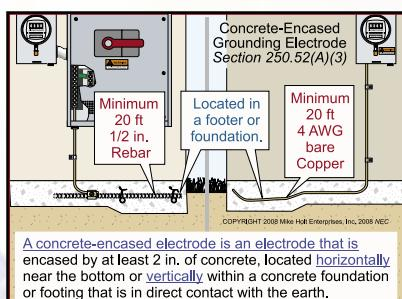

Figure 250-26
(3) Concrete-Encased Grounding Electrode. A concrete-encased electrode is an electrode that is encased by at least 2 in. of concrete, located horizontally near the bottom or vertically within a concrete foundation or footing that is in direct contact with the earth consisting of one of the following: (See *Figure 250-26*)